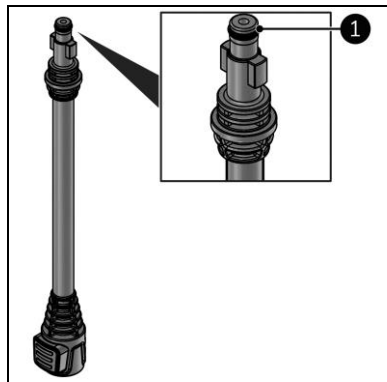

Figure 15
4. Apply Vaseline to the O-ring of the lance extension (Figure 15, pos. 1).